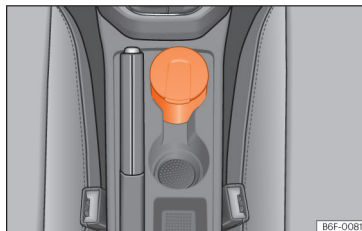

Fig. 158 Ashtray in the centre console.
- To open the ashtray, lift the cover »» Fig. 158.